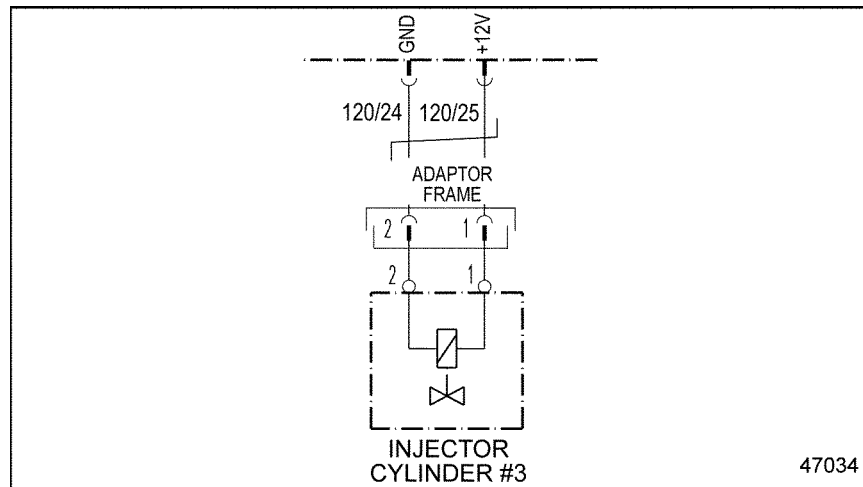

Figure 26-2 Injector #3
5. Measure the resistance between pin 1 of injector #3 and ground. See Figure 26-2.